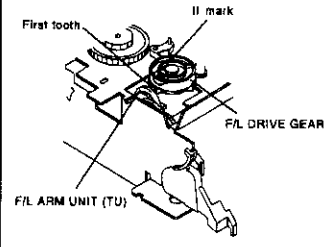

Fig. 2-17-8
- 10 Install the F/L DRIVE GEAR so that the first tooth of the gear of the F/L ARM UNIT (TU) matches with the II mark on the F/L DRIVE GEAR as shown in Fig. 2-17-8.